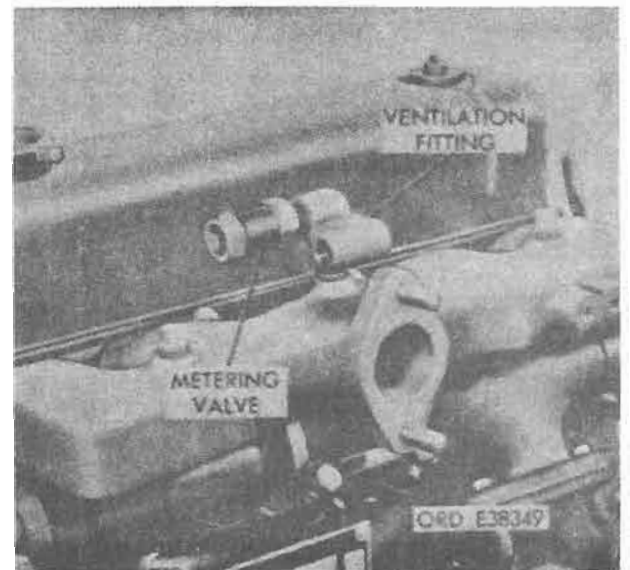

Figure 4-65. Crankcase metering valve and fittings.
g. Crankcase Metering Valve and Fitting. Remove crankcase metering valve from fitting at intake manifold and remove fitting (fig. 4-65).